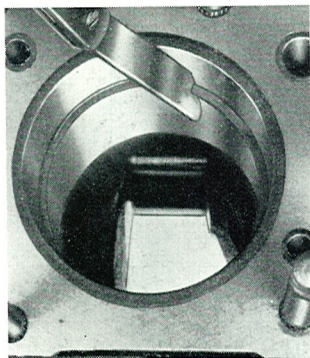

Fig. 2-33. Measuring the piston ring gap
2. Measure the ring gap with a feeler gauge, see Fig. 2-33. The gap should be 0.40—0.55 mm (0.016—0.022"). If necessary, the gap can be increased with the help of a special file.